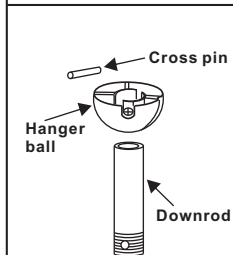

Figure 7
**Step 3.** Remove hanger ball from downrod assembly by loosening set screw, removing the cross pin, and sliding ball off rod. (Fig.7)